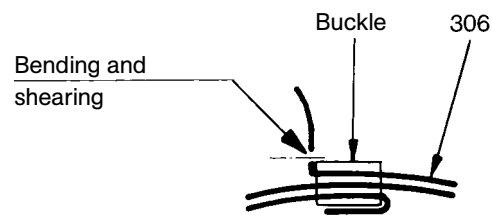

Figure 9: Bending and shearing of the clamping band.
- When using clamping tool PoK-It II, bend clamping band (306) after clamping at the clamping band buckle by swinging the clamping tool so that the band cannot glide back through the buckle. After bending at the clamping band buckle, the clamping band must be sheared with sheet metal shears and the cutting edges deburred (please refer to Figure 9 below).
**ATTENTION** Check whether the clamping band is bent so that it cannot glide back through the clamping band buckle (please refer to Figure 9 above). If this was not achieved, the clamping band must be removed and replaced by a new one.